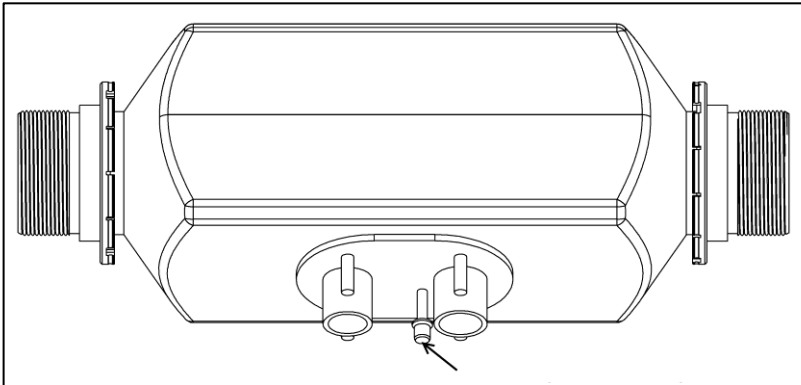

Figure 3
2. Remove fuel intake pipe's protective cap. Put both $\varnothing 60$ mm air pipe flanges where grilles were removed (Figure 3)